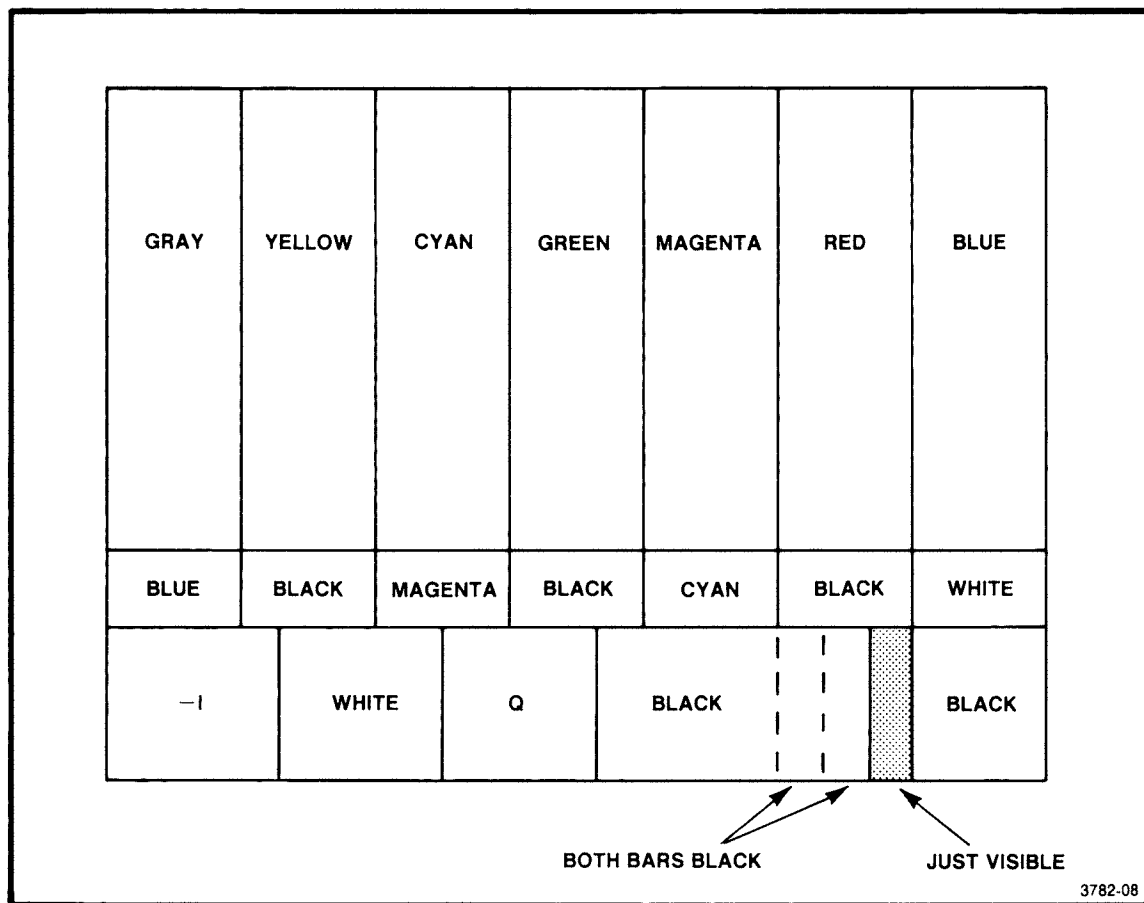

Fig. 1-8. Using the SMPTE Black Set signal to set the picture monitor Brightness control.
- With all three of the monitor's screens turned on at ambient viewing conditions, adjust the Brightness control until the gray 11.5 IRE part of the Black Set signal is just visible, but the difference between the blacker than black (3.5 IRE) and the black (7.5 IRE) segments is not discernable (See Fig. 1-8).